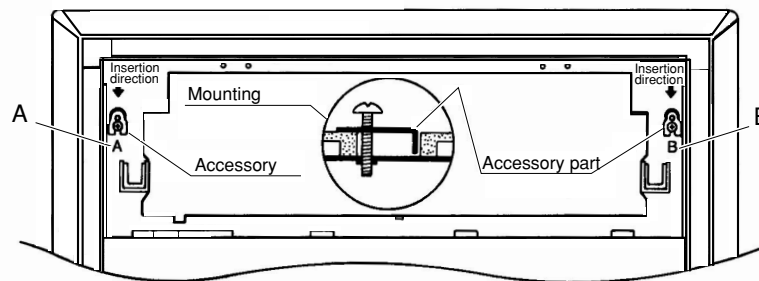

Fig. 9-1
- (1) Screw the M5 × 40 screws supplied (in the unit packing) into 4 points on the flange surface of the unit bolted to the ceiling. Insert the screws so that the distance between the bottom of the screw head and the bottom surface of the flange is at least 19.05 mm. (Fig. 9-1)
- (2) Next, lift the ceiling panel in this position so that the 4 protruding screws pass through the key hole-shaped openings in the panel, then shift the panel sideways until it is caught by the screws.
- (3) Keeping the ceiling panel in this position, check to see if the joining edge of the ceiling panels are in line with those of the ceiling material. If they are not in line, remove the ceiling panel and finely adjust the suspension position of the unit.
- (4) Once the joining edges are properly aligned with each other, install the supplied stoppers into the key hole-shaped openings, then insert the 4 screws until the ceiling panel touches the flange surface of the unit.
- (1) Pass through screws on the unit into the key hole-shaped openings on the panel.
- (2) Then, shift the panel sideways until it is caught by the screws.
- (3) Insert the stoppers in the direction of the arrow as shown, confirm that the bent portion of each stopper is securely in the hole, A and B, then tighten the screw. (Fig. 9-1)